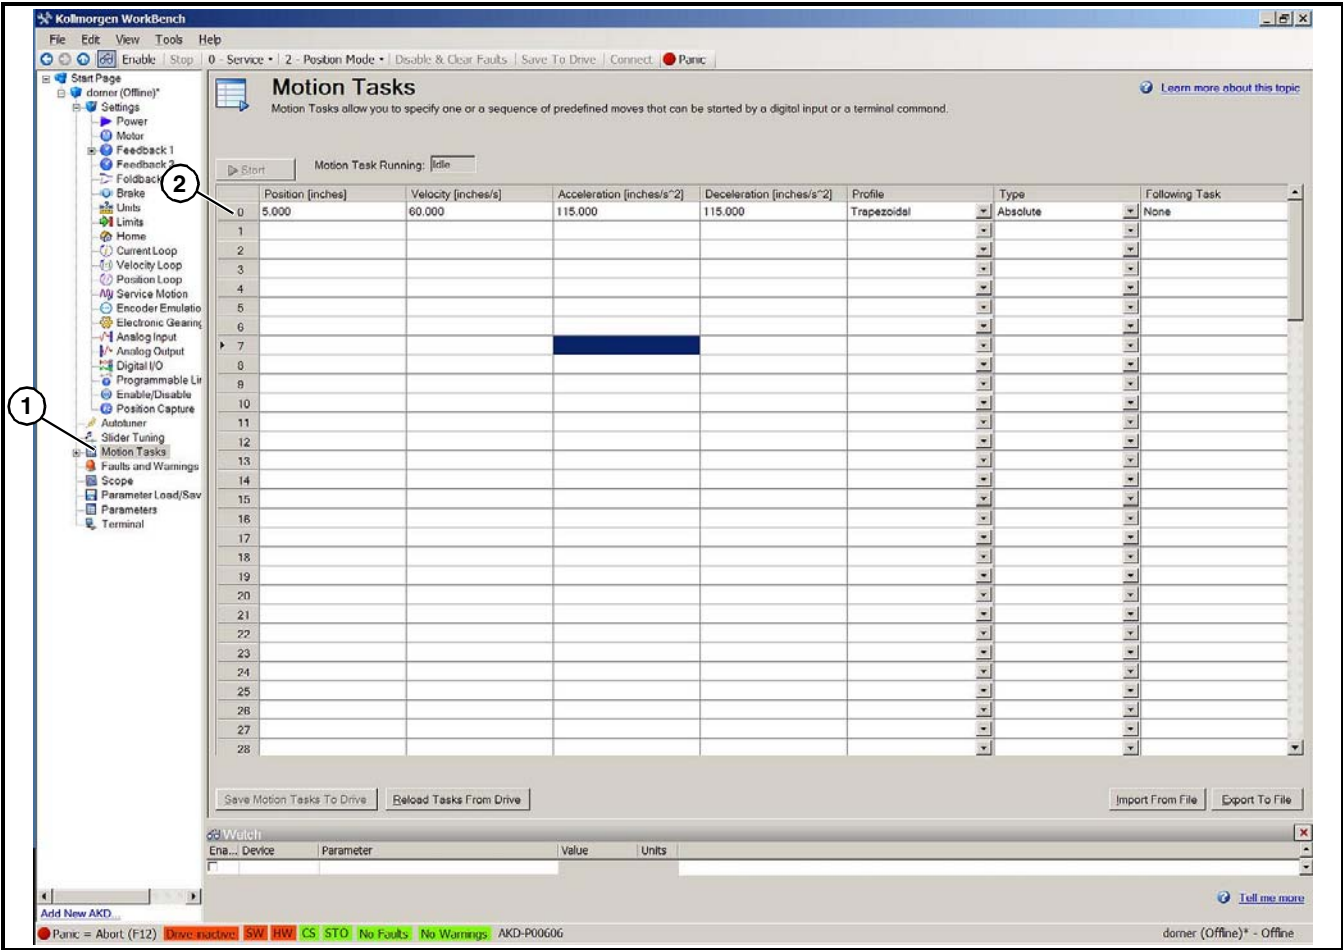

Figure 46
1. Select **Motion Tasks** (Figure 46, item 1) from the Navigation Tree.
3. Double click on task number (Figure 46, item 2) to get to this screen (below).